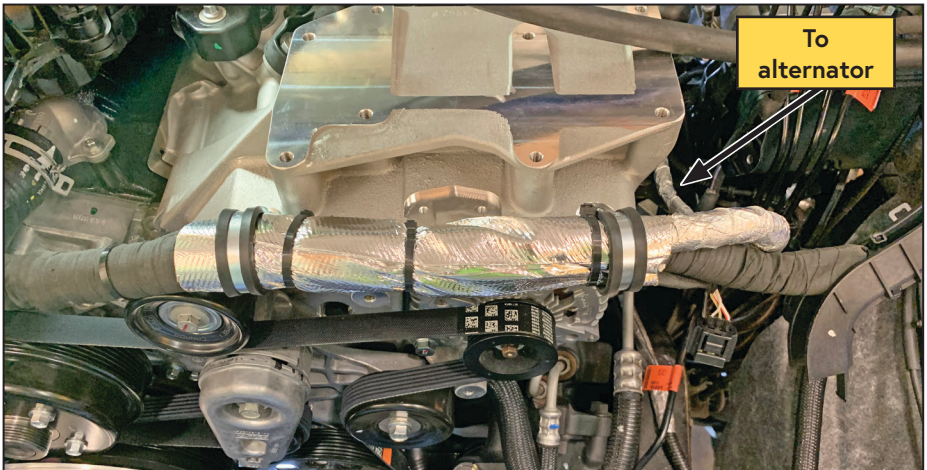

Figure 40 — Secure positive battery harness
- ☐ Using the (x2) sheets of supplied heat wrap (overlapping the sheets as necessary to accommodate the larger circumference of the dual alternator harness), wrap the harness in the supplied heat wrap and secure the cables ties and P-clips (Figure 40).